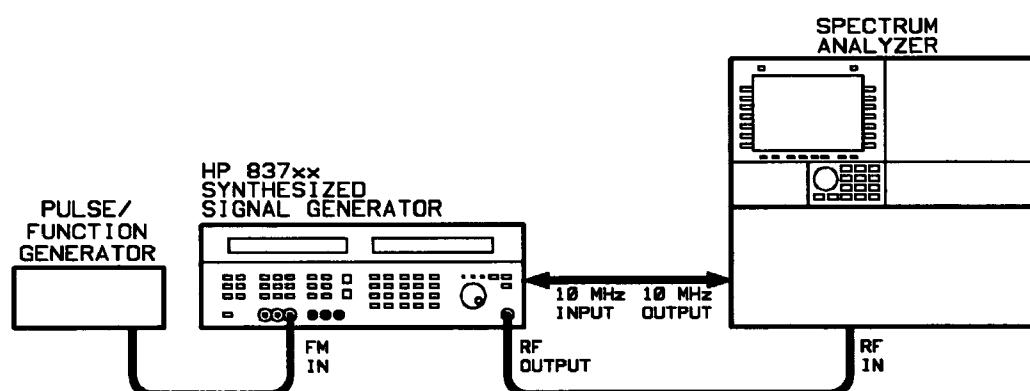

Figure 3-19. Maximum FM Deviation Test Setup
1. Connect the equipment as shown in Figure 3-19.